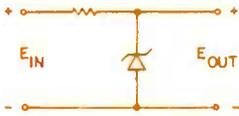
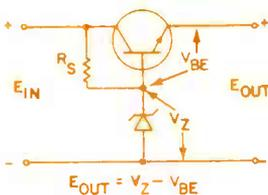
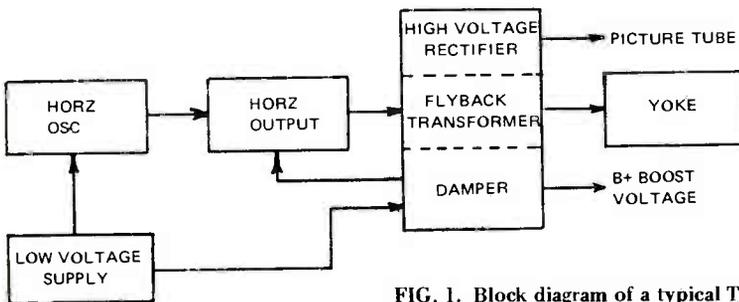

Fig. 2. Basic Zener diode shunt regulator.
Fig. 3. Emitter-follower transistor used to increase current-handling ability of Zener diode.
FIG. 1. Block diagram of a typical TV power supply system.
Fig. 2 shows a Zener diode connected as it is most frequently seen: in a shunt regulator circuit. The purpose of such a circuit is to maintain a constant dc output voltage, regardless of fluctuations in load current and supply voltage. Volt-
age regulation is not needed in all types of equipment, but it is often a necessity for stable circuit performance. The important thing to notice about the circuit of Fig. 2 is that reverse bias voltage is being applied to the diode. Note that the cathode is connected to a positive voltage source, while the anode is connected to the negative side of the
Although the Zener diode makes a very good shunt regulator, it cannot act alone. The series resistor in Fig. 2 plays a very important role in the action of the basic shunt regulator circuit. If this resistor is not present, when the input voltage rises a very heavy reverse current will flow in the Zener diode. It will soon burn out, and the output voltage will then rise to the same high level as the input voltage. To keep this heavy current from passing through the Zener, the series resistor is needed. Its value is determined by using Ohm's Law. Since the input voltage and output voltage are known, the voltage across the resistor can be calculated by subtracting the output from the input. The current through the Zener is known, so we can calculate the resistance of the series resistor ( $R = E/I$ ). In addition, the formula  $P = E^2/R$  can be used to find the power to be handled by the resistor. In practice, a resistor is selected which has at least twice as high a dissipation rating as the actual amount of power to be dissipated. This will result in cool, reliable operation.
Since the amount of current available for the load without lowering the output voltage is limited by the current-handling ability of the Zener diode employed, the output current capability can be increased by using a Zener with a higher power rating. Unfortunately, high-power Zener diodes are rather expensive. Fig. 3 shows a more satisfactory way of providing heavier currents. Here the Zener diode is used to regulate the voltage at the base of the series-pass transistor, and the transistor, in turn, regulates the amount of current passed through the load. In effect, the resistance between the collector and emitter of the transistor is varied to maintain a constant output voltage. If the output voltage falls because of an increase in load current, the
In the circuit shown in Fig. 3, the current passed by the Zener is roughly equal to the output current divided by the Beta (current gain) of the transistor. The output voltage is equal to the Zener voltage minus the base-emitter voltage drop of the series pass transistor. If a silicon transistor is used, and this is nearly always the case in modern equipment, the base-emitter voltage drop is about .7 volt, so the output voltage will be about .7 volt less than the Zener voltage.
voltage changes. In fact, under the proper conditions (Fig. 2 or Fig. 3, for example), the Zener makes an excellent filter capacitor. Modern circuits frequently use small, efficient, Zener diodes to replace bulky and expensive electrolytic capacitors.
2. The circuit shown in Fig. 3 is used to match the impedance of a large power Zener to a power supply circuit.
A block diagram of the circuitry developing the raster in a TV receiver is shown in Fig. 1. A typical schematic is shown in Fig. 2. A failure any place in this chain will cause the face of the picture tube to be completely dark. To service a no raster complaint by the instructions in this article, you must know how the circuits work.
The purpose of the circuit in Fig. 2 is to produce high voltage for the second anode of the picture tube and at the same time develop a varying magnetic field in the yoke. This magnetic field will sweep the electron beam from the picture tube gun back and forth across the fluorescent screen of the tube, causing it to light up. This action will produce a thin horizontal line on the face of the tube. The vertical sweep, which will not be considered here, moves the beam up and down to produce the complete raster.
Fig. 2 shows the power supply, horizontal oscillator (8FQ7), horizontal output tube and damper (38HE7), flyback transformer T3, horizontal yoke, and the high voltage rectifier tube V10 (1K3).
Looking at Fig. 1 we can sum up the action as follows: The low voltage supply furnishes dc voltage to the horizontal oscillator, horizontal output and damper tubes. If sound is obtained, you know that the low voltage supply is OK. If not, check for an open fusible resistor (R64 in Fig. 2B.)
While this is only a rough outline of the action taking place in Fig. 2, you can imagine defects other than those mentioned which would prevent formation of the raster. With no raster present, you want to know if the chain in Fig. 2 is working to produce the required high voltage. First you want to see if low dc voltage is available. The presence of the audio portion of the program is proof that low voltage exists. If there is no sound, remove a suitable tube and check from the chassis to one of its electrodes normally receiving low voltage. When locating the tube socket pin holes from the top, remember to count in a counterclockwise direction from the key spacing of the socket – opposite to the direction for locating pins on the base of the tube.
Next unbutton the shield hiding the high-voltage rectifier. A strong glow should exist around the tube envelope because of the high voltage being applied for rectification. If this is present, try a new rectifier tube and check for anode picture tube voltage. If the voltage to be rectified is present and the tube is OK but there is no high voltage, look at the schematic in Fig. 2 to see what might be wrong. R60, if open, would prevent voltage from being applied to the rectifier filament. R63, if open, would prevent high voltage from appearing at the picture tube second anode. With the set turned off and V10 removed, locate the filament socket holes and check between pins 2 and 7 with an ohmmeter. Lack of continuity shows an open R60. Next measure the resistance from the anode lead of the picture tube to pin 2 of V10. There should be about 4.7k ohms present. Both resistors are under the base of the socket and can be replaced without too much trouble.
Fig. 2 is a Philco chassis 17C21. It is used in this article because it was pulled for a set I was working on. You may be interested in the case although it has nothing to do with the purpose of this article. The customer said the set developed a mess of horizontal lines. Sure enough, it lost sync in a short time. This was fixed by adjusting the ringing coil, L19, and I left the set to cook before releasing it as fixed. Much to my dismay it developed a real mess of horizontal lines without losing horizontal sync. I then noticed that by adjusting the fine tuning I could make a ghost appear. I tried new tubes in the tuner and the video i-f amplifier. No soap! The trouble seemed to be i-f oscillation; the fine lines looked just like an interfering signal near the i-f frequency. A change in value of an i-f cathode resistor or an open in a bypass somewhere in the i-f amplifier would do this. Rather than fool around, I decided the i-f tuning was off and forming the wrong i-f wave shape.
Now to an actual case of no raster to see how it was handled. The circuit in question was an RCA chassis KCS97 shown in Fig. 3. If you are familiar with TV, you can tell that this is an old set by the type of horizontal oscillator and the magnetic focusing and ion trap on the picture tube. Before doing anything else, I checked the picture tube because of the age of the set. The base of the tube was cracked to pieces and held together with tape. The tube tested weak, but one touch of rejuvenation with the old CRT tester fixed that. However, still no raster.